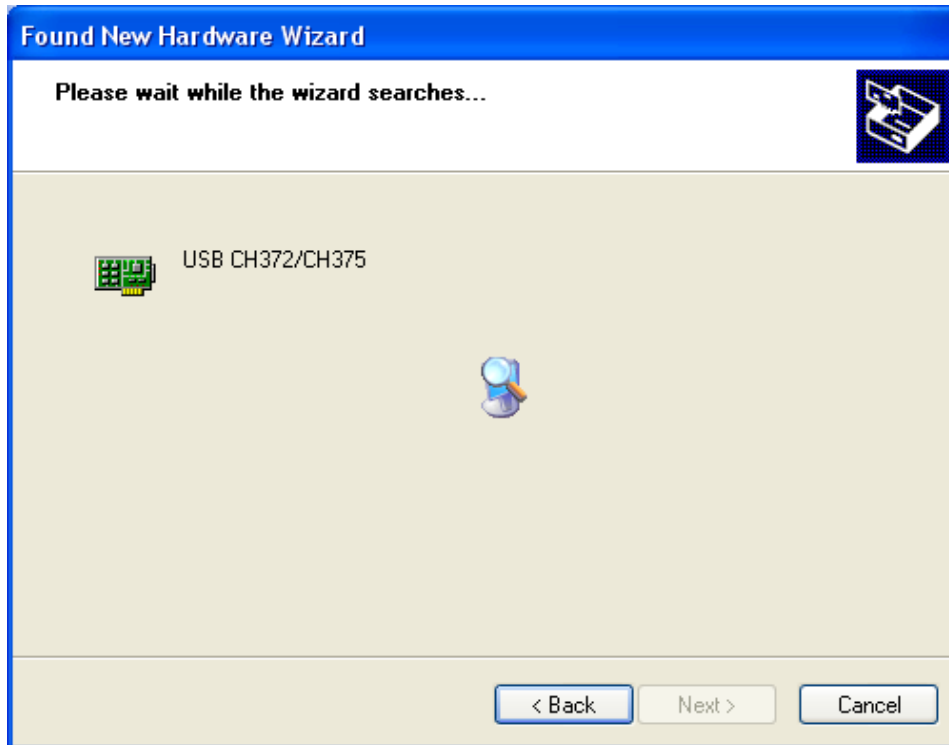
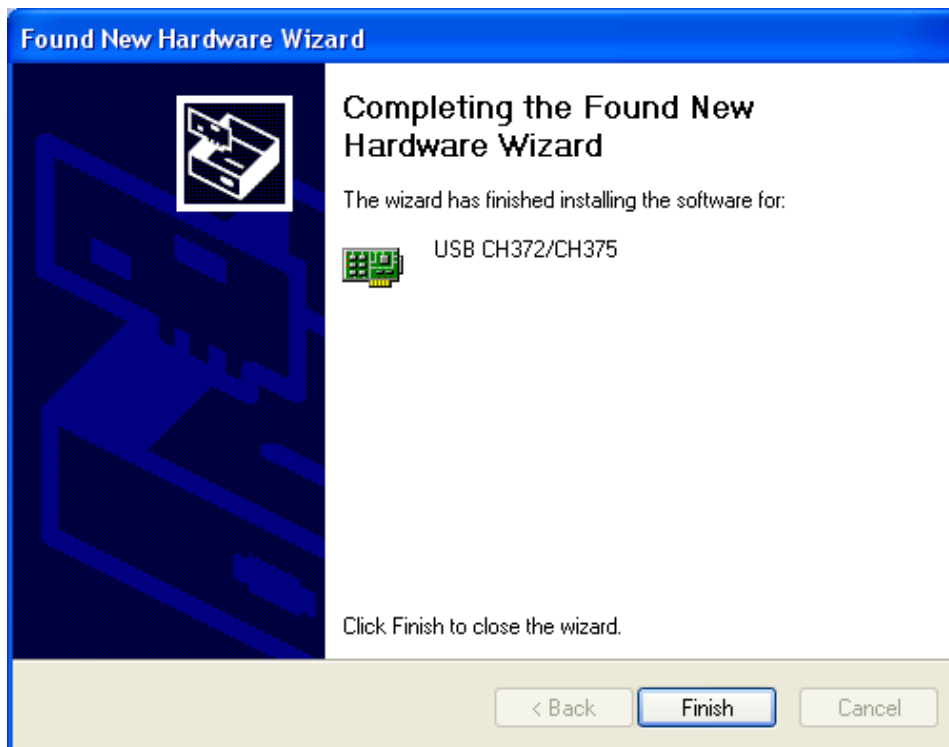

Figure 1-16
Figure 1-17
search and installation page, as shown in Figure 1-16.
4. As shown in Figure 1-16, the hardware installation wizard of your digital storage oscilloscope begins searching and installing the USB driver for the oscilloscope communication and control software. When installation is complete the dialog box shown in Figure 1-17 pops up.
5. In Figure 1-17, click the **Finish** button. Your USB driver is now installed, and instant communication and control are enabled between the oscilloscope and the software. Please read “Chapter 3 : Operation guide for the oscilloscope communication and control software” prior to operation to familiarise with communication and control via the USB interface.